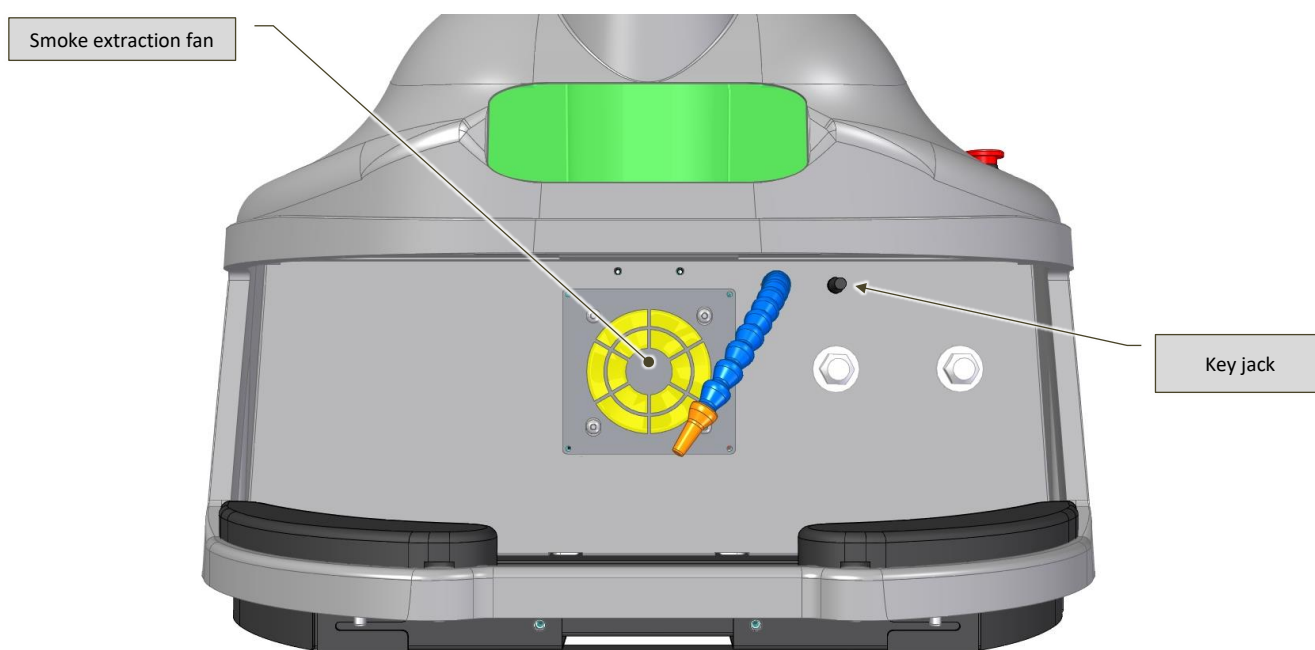

Fig. 7-7 – Welding chamber (without blind)
- Extraction fan for smoke generated during welding operations (Fig. 7-7);
- Ignition key of the machine (Fig. 7-7);